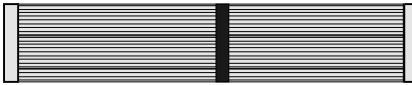

Figure 1-1 IDE cable
- One 40-pin IDE connector ribbon cable (Figure 1-1)